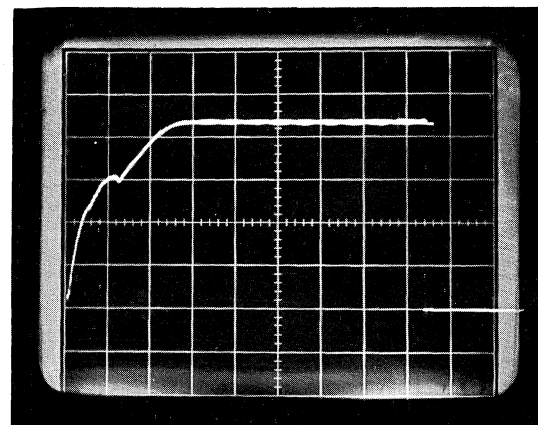

Figure 30.5
30.2 Refer to Figure 30.5
30.3 Figure 30.5